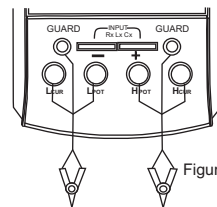

Figure 5
- b) When using $L_{CUR}/L_{POT}/H_{POT}/H_{CUR}$ terminals insert the black and red testing lines with alligator clip into the "L_{CUR}", "L_{POT}", terminal and "H_{CUR}", "H_{POT}" terminal respectively. (shown in figure 5).